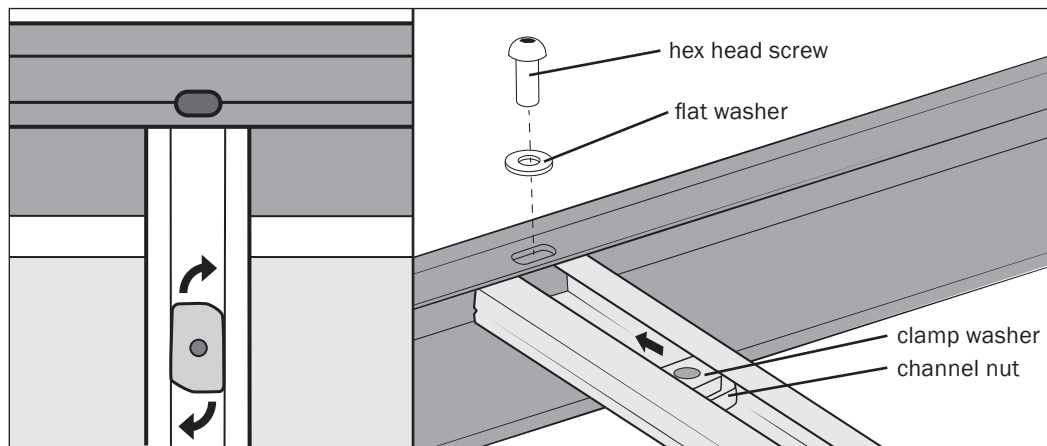

Figure 4
4. The crossbars on each end and in the center will bolt in with the supplied hardware. Insert the channel nut within the crossbar as shown (Fig. 4) and rotate 90 degrees. Place clamp washer on top of the channel nut and slide both to the outside of the tray so they sit under the slot. Attach with the hex head screw and washer.